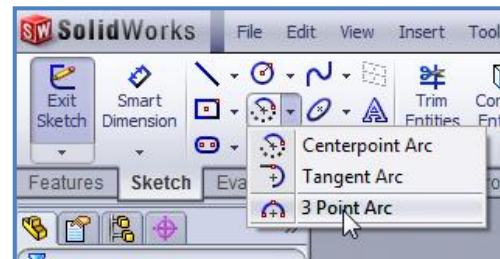

Figure 4
- Select the **3 point Arc** command from the Sketch Tab as shown (figure 4).